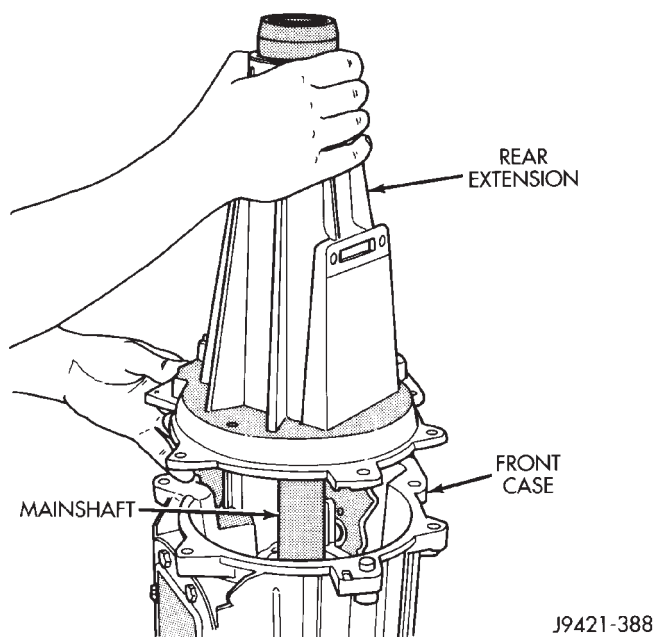

Fig. 68 Installing Rear Extension On Front Case
(24) Install new seal in rear extension if necessary. Use suitable size installer tool and be sure seal is fully seated.
(25) Apply bead of Mopar Gasket Maker, Loctite 518, or Mopar silicone adhesive sealer to mating surface of front case and rear extension. Sealer beads should be no more than 1/8 to 3/16 in. wide.
(26) Align and install rear extension on front case (Fig. 68).